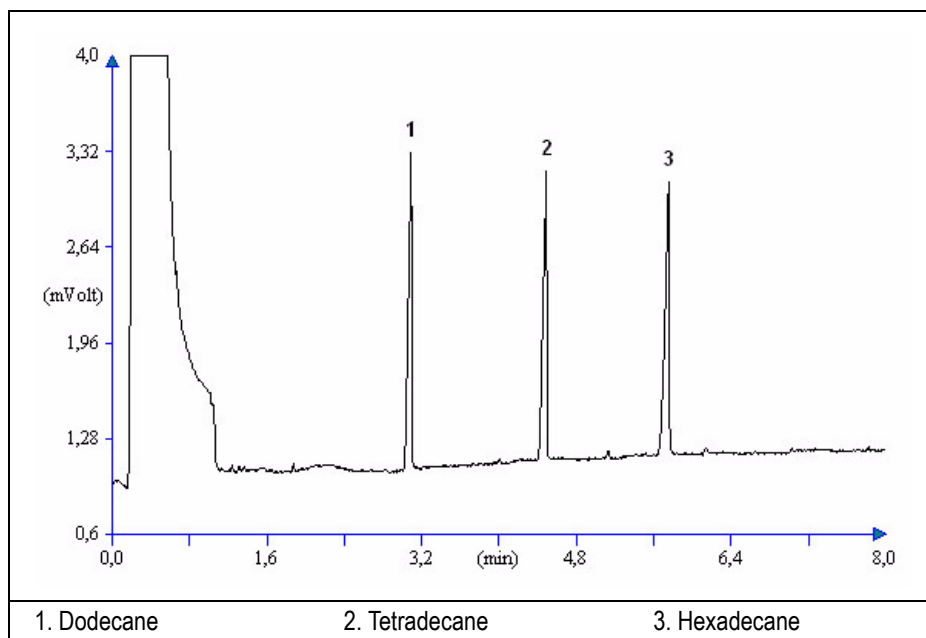

Figure 26-1. TCD-Packed Injection
14. Inject the test mixture and press **START** on the GC to begin the checkout run. The resulting chromatogram should look like the one shown in *Figure 26.1*